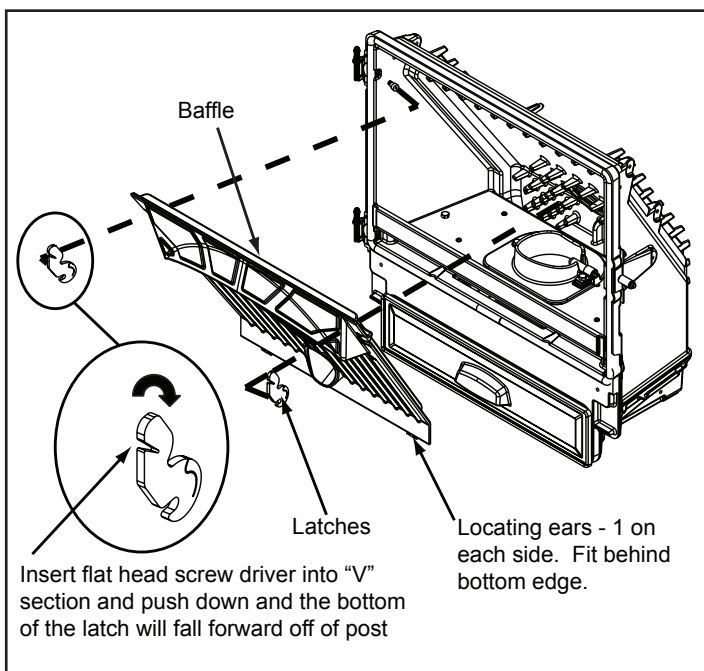

Figure 28.2
- Remove baffle by placing a flat head screw driver into the slot of the latches located in the upper corners and push down. The bottom of the latch will fall forward off of the post. Lift the baffle up and then out toward you. **Figure 28.2.**